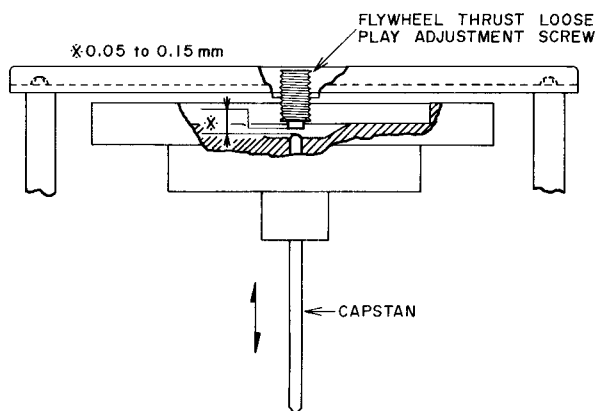

Fig. 5 Flywheel Thrust Loose Play Adjustment
1. FLYWHEEL THRUST LOOSE PLAY ADJUSTMENT (Refer to Fig. 5)